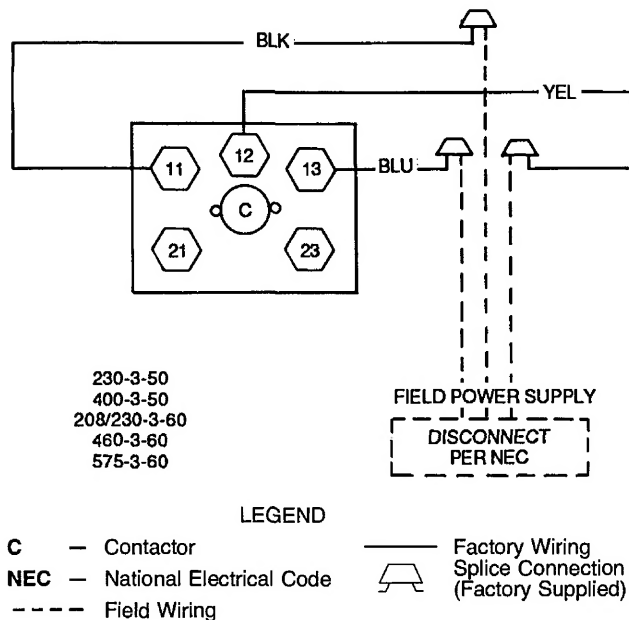

Fig. 3 — Power Wiring Connections
2. Install power lines to connections as shown in Fig. 3. Wrap connections with electrical tape.